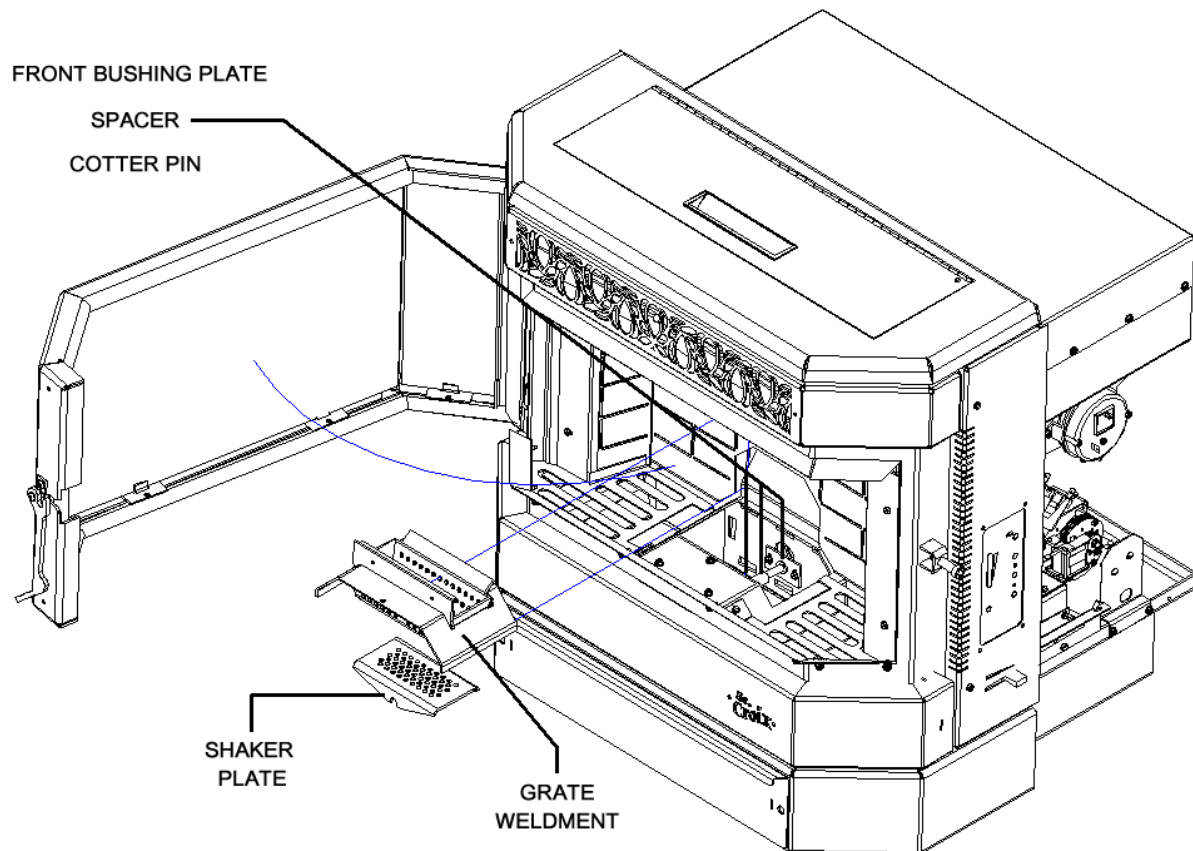

Figure 26
1. Check Grate Weldment and Shaker Plate (See figure 26) to determine if holes are plugged. Clean as needed. With proper precautions the grate may be partially cleaned while the stove is hot. Follow these steps:
2. **Grate Weldment and Shaker Plate.** Clean Grate Weldment and Shaker Plate holes whenever needed. Remove the Burnpot and use a small metal object (Nail, Drill Bit, etc) to clean out plugged holes. (*See Figure 26*). The Grate Weldment and Shaker Plate holes can also be cleaned without removing them by using a small steel brush to clean the holes.